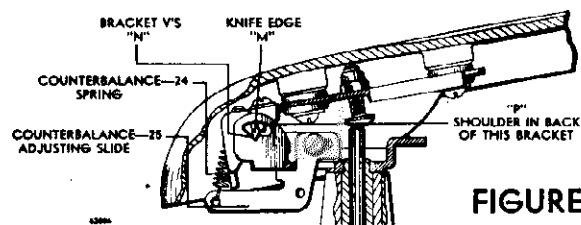

FIGURE 18. CUTAWAY END VIEW
4. EXCESSIVE CLEARANCE at tone arm hinge bracket. (See FIG. 18.)